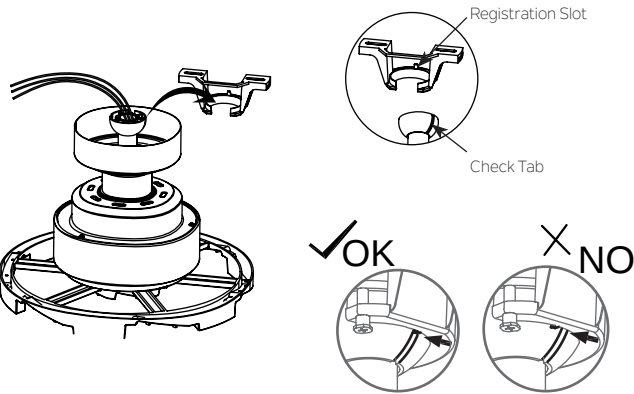

Fig. 12
Step 7. Now lift the motor body into position and place the hanger ball into the mounting bracket. Rotate until the "Check Tab" has dropped into the "Registration Slot" and seats firmly. (Fig. 12) The entire motor body should not rotate if this is done correctly.